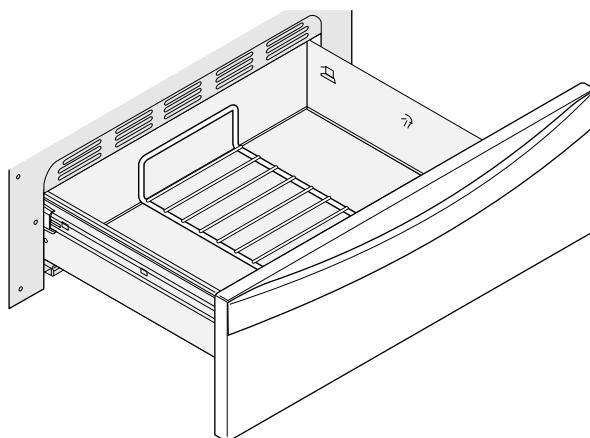

Fig. 2
- In the **downward position** (See Fig. 2) to allow for light weight food items and empty cookware (for example, rolls or pastries and dinner plates) on the rack.
The warmer drawer controls are located on the control panel. Use the warmer drawer control keypads to turn the warmer drawer ON and OFF and make temperature adjustments. Five available heat settings are provided from low to high (See Fig. 2).